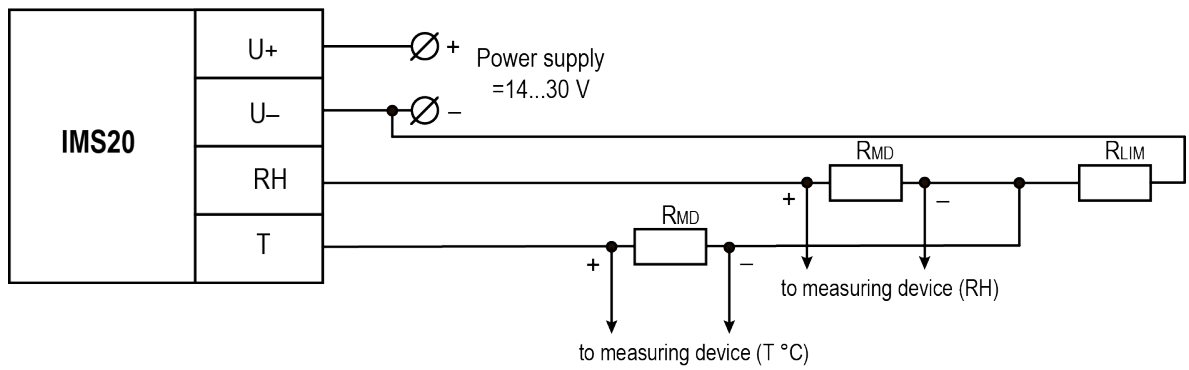

Fig. 7.3 Wiring diagram (output signal of 4-20 mA)
3. Connect the conductors to the screwless terminal block according to the corresponding diagram (Figure 7.3 or 7.4).
Wiring diagrams for the device with analog outputs are shown in Figures 7.3 and 7.4.